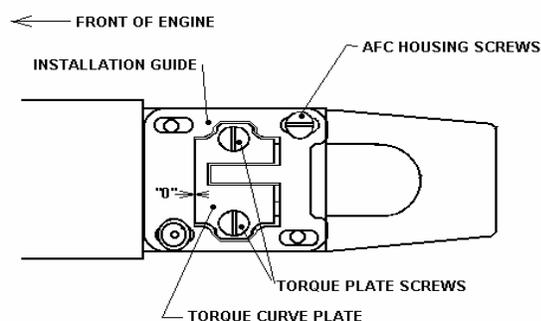

FIGURE 6
18. Leave one of the torque plate screws tight while removing the other screw using the hand impact tool with a large screw driver bit. Move the removed screw and reinstall it to one corner of the guide plate. Slide the installation guide as far as possible toward the rear of the engine so that there is zero clearance between the front edge of the torque curve plate flange and the installation guide, as shown in FIGURE 6. Once zero clearance is achieved, hand tighten the screw so that the guide does **NOT** move in the next four steps.